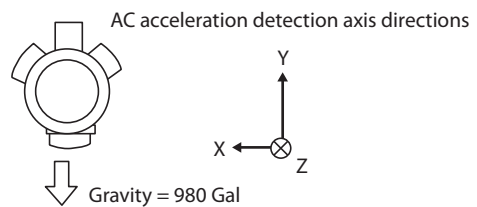

Figure 2B: Y-axis FSG measurement ( $\alpha Y_{+980}$ )
(2) Position this unit as shown in figure 2B.